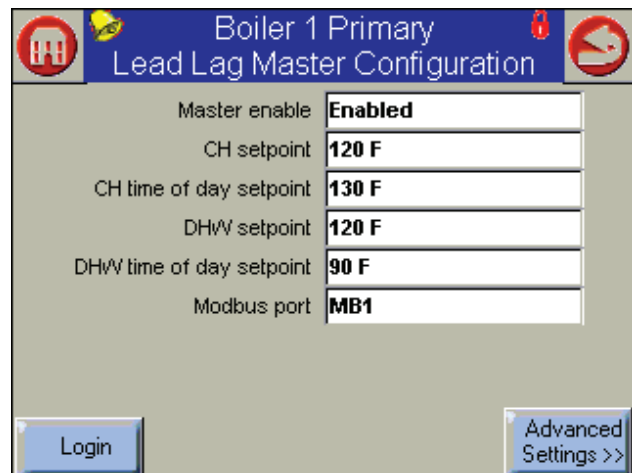

Fig. 60 – Lead/Lag Master Configuration
- Press the Configure button. The display will present the Lead/Lag Master Configuration Screen (Fig. 60).